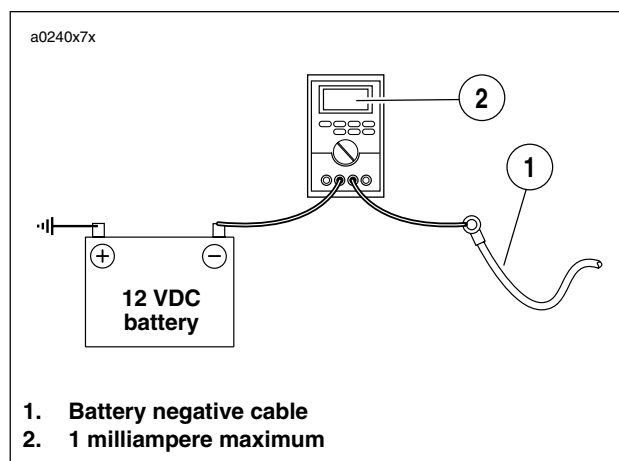

Figure 7-46. Milliampere Draw Test with Ignition Turned to OFF Position
1. See Figure 7-46. Connect ammeter between negative battery terminal and battery. With this arrangement, you will also pick up any regulator drain.